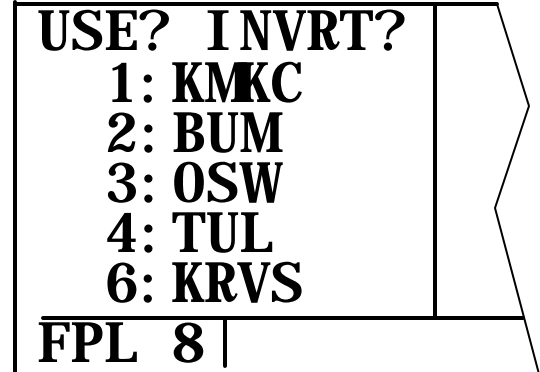

Figure 3D-35. Flight Plan Type Page
1. Rotate the left outer knob to select the flight plan type pages. Refer to Figure 3D-35.
2. Turn the left inner knob to select a flight plan page, preferably other than FPL 0, which does not contain a flight plan as depicted in Figure 3D-36.